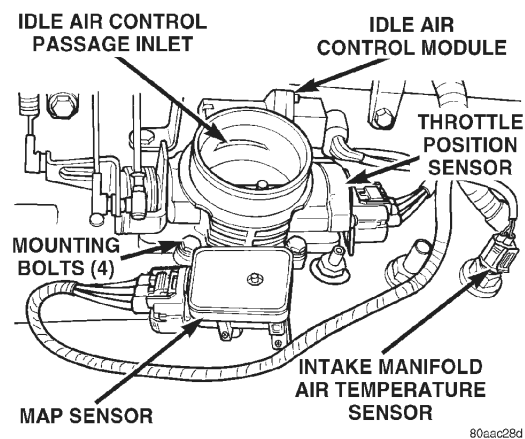
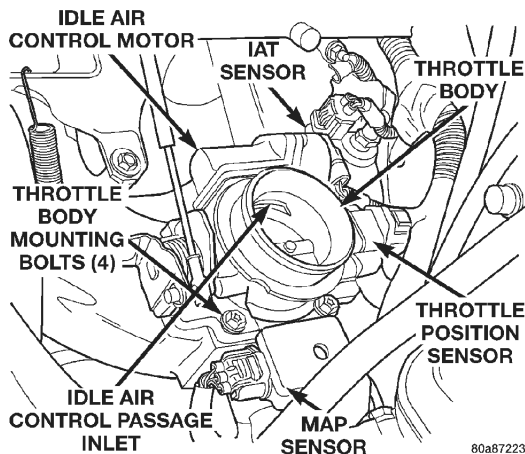

Fig. 37 Throttle Body and Sensor Locations—4.0L Engine
Fig. 38 Throttle Body and Sensor Locations—2.5L Engine
- (1) Remove air cleaner tube at throttle body.
- (2) Disconnect throttle body electrical connectors at MAP sensor, IAC motor and TPS (Fig. 37) or (Fig. 38).
The TPS is mounted to the throttle body (Fig. 37) or (Fig. 38).
The IAC motor is located on the side of the throttle body (Fig. 37) or (Fig. 38).
The MAP sensor is mounted to the side of the throttle body (Fig. 37) or (Fig. 38). An L-shaped rubber fitting is used to connect the MAP sensor to throttle body (Fig. 42).